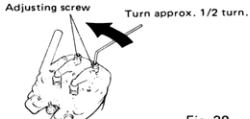

Fig. 38
- 2) Turn adjusting screw approx. $\frac{1}{2}$ turn counter-clockwise to open gap with 1.5 mm Allen Key supplied. (See Fig. 38.)